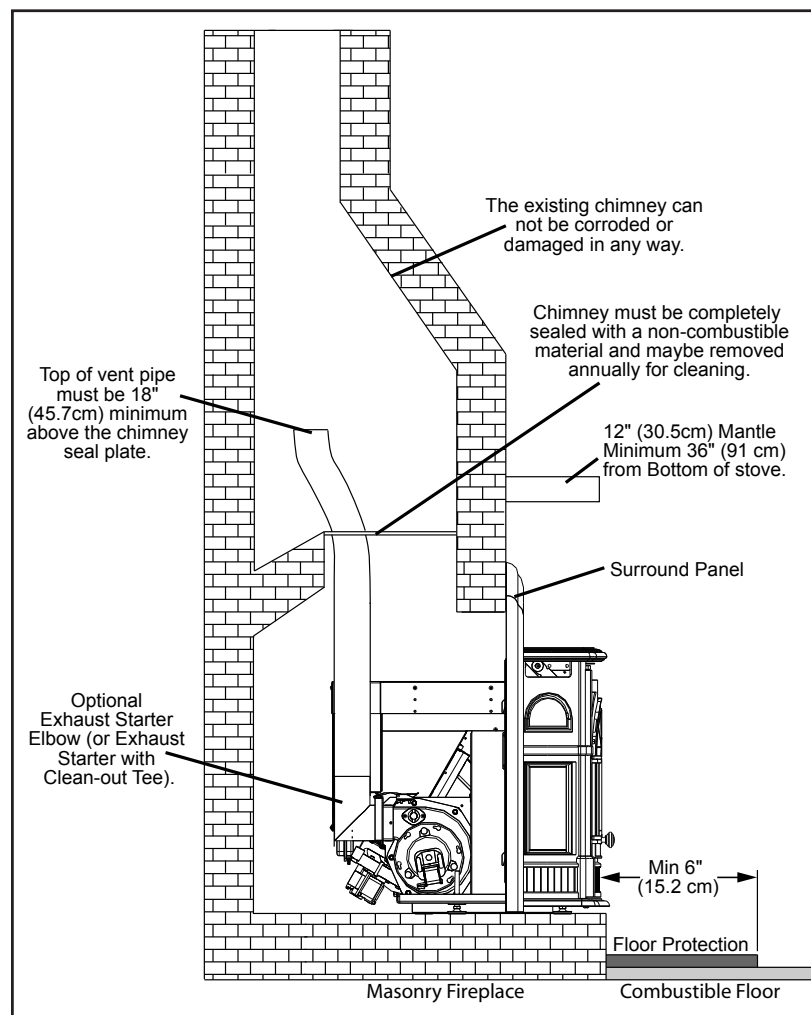

Figure 9: Masonry fireplace positive flue installation.
1. Using a $\frac{3}{8}$ " socket or wrench connect the five (5) pieces of the skirt together with four (4) screws provided (see Figure 9). Do not completely tighten the screws; the screws should be loose enough that the cast pieces will be able to be adjusted but not fall apart.